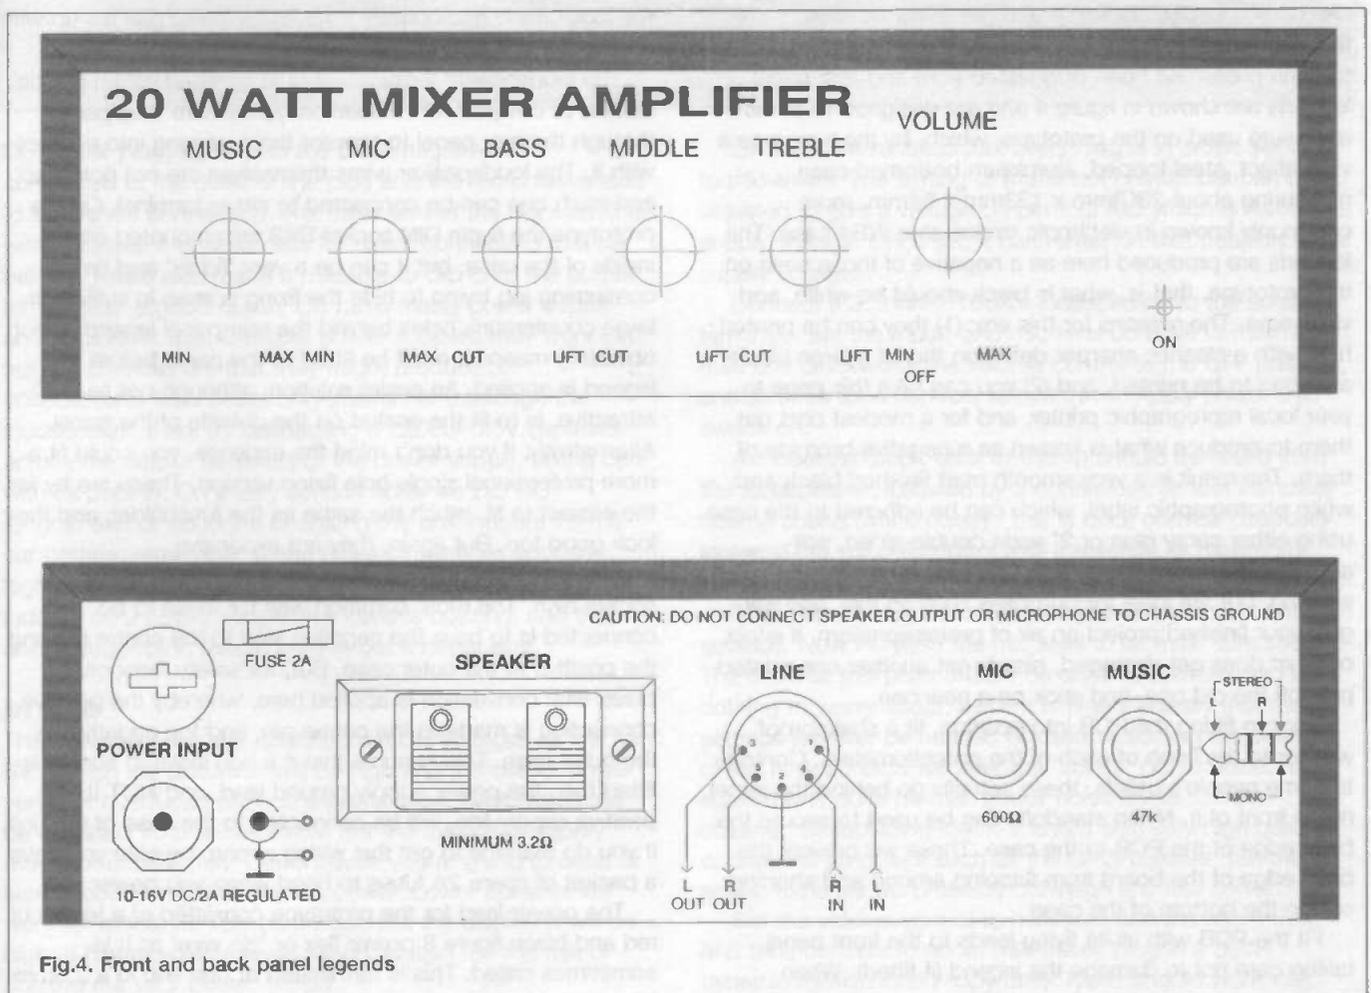

Fig.4. Front and back panel legends
from the switch to the power amplifier section MUST be kept as short as possible. At first glance it may seem a waste of effort to have two GND wires going to what looks to be effectively the same place, since they are joined by copper on the underside of the board (those being the PA GND on the PCB and the tab of IC4). But those of you with access to an oscilloscope will be able to see what effect it has on the loudspeaker output by leaving out just one of these wires. Similar constraints apply to the design of the copper track pattern of the power amplifier board itself. There are no sharp cornered tracks or square pads used here, and attempting to build this type of circuit on, say, stripboard would almost certainly fail to produce an amplifier - you're more likely to end up with some form of high frequency oscillating heater! Not to mention the headaches which ensue. With an incorrectly or badly designed board layout, it can be an absolute nightmare to get these devices to function reliably, and you are strongly recommended to use the one presented here. Suggested front and rear panel legends are shown in figure 4 and are designed to fit the enclosure used on the prototype, which, by the way, was a vinyl effect, steel topped, aluminium bottomed case measuring about 230mm x 133mm x 64mm, more commonly known in electronic circles as a WB4 case. The legends are produced here as a negative of those seen on the prototype, that is, what is black should be white, and vice versa. The reasons for this are; (1) they can be printed here with a cleaner, sharper definition than if a large black area had to be printed, and (2) you can take this page to your local reprographic printer, and for a modest cost get them to produce what is known as a negative bromide of them. The result is a very smooth matt finished black and white photographic label, which can be adhered to the case using either spray glue or 2" wide double-sided, self-adhesive tape. The labels won't be exceptionally hard wearing, but are ideal for purposes such as this, and will give your finished project an air of professionalism. If either of them does get damaged, simply get another one printed, peel off the old one, and stick on a new one.